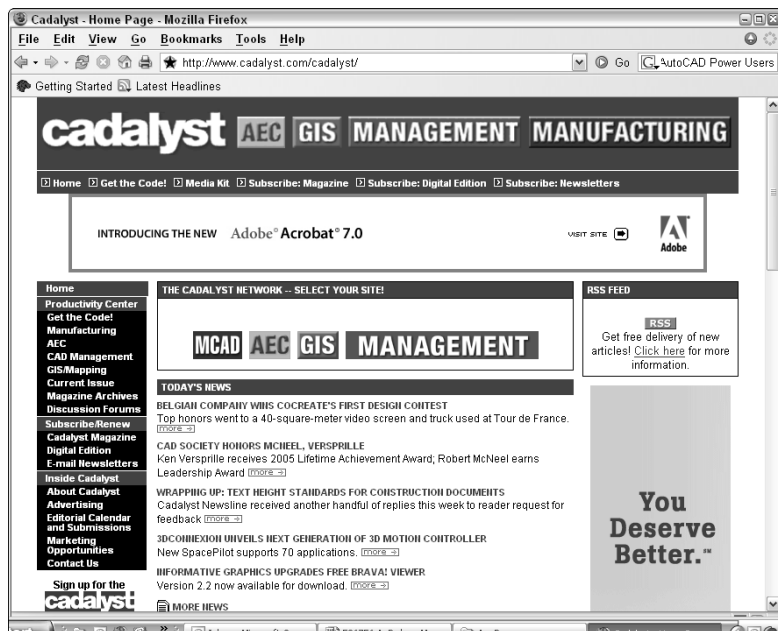

Figure B-3: The *Cadalyst* Web site.
- ♦ The *Cadalist* Web site, at [www.cadalist.com](http://www.cadalist.com), shown in Figure B-3, is another important resource. Here you can find news, events, links, products, downloads, and so on. The *Cadalist* files offer all of the AutoLISP code that the magazine has published since 1993.